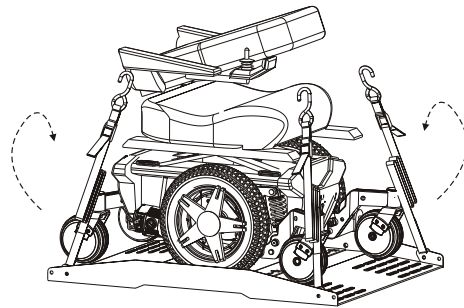

Figure 3-3
1. Each corner of the AL6000 platform has a restraint attached with a hook on the end. Place each hook in either the anchor plate slot, each U-bolt, or tie-down loops attached to the mobility device. **See Figure 3-3.**